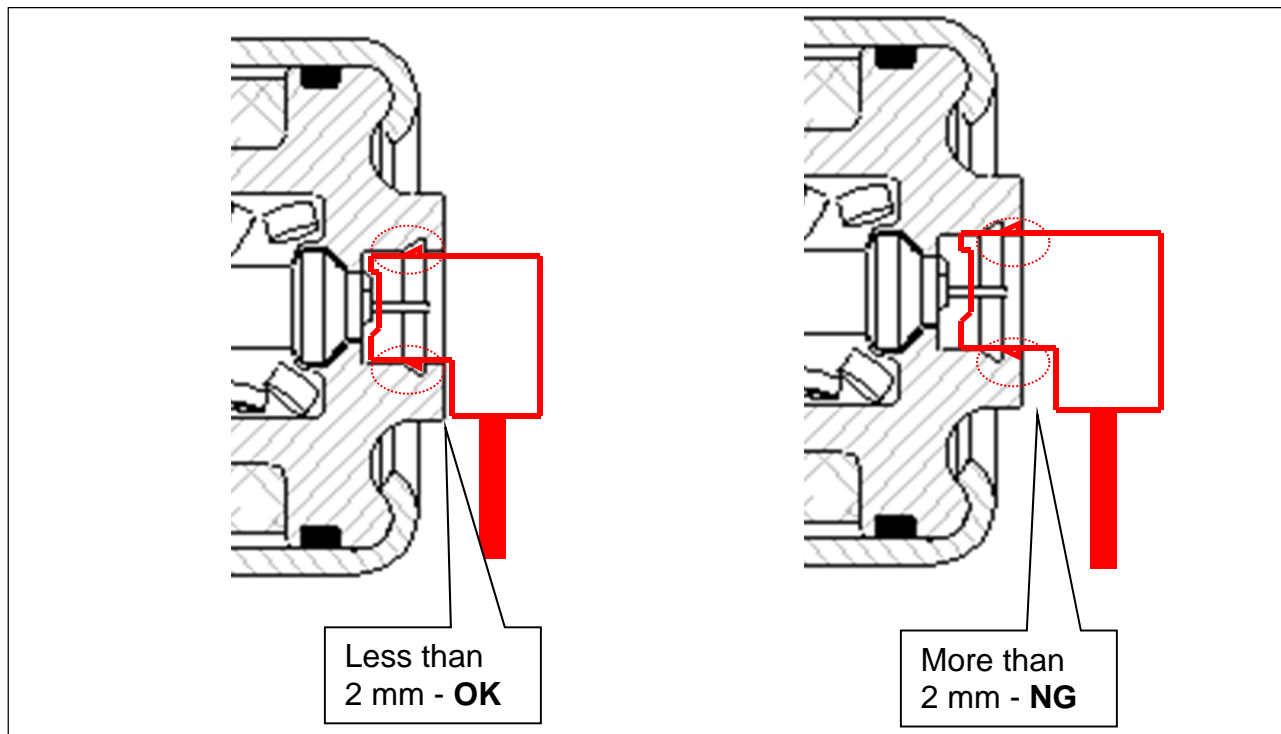

Figure 46
- Refer to Figure 44 – Figure 46.
- Make sure the inflator connectors are fully engaged / seated (Figure 46).